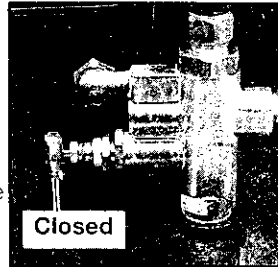

Fig. 6
10. Place unloader valve in the "Closed" position as shown in Figure 6).